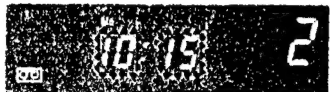

Fig. 11
4. Press the "TIME+" button or "TIME-" button until you see "Mo 10:15" on display. Release. (Fig. 11)